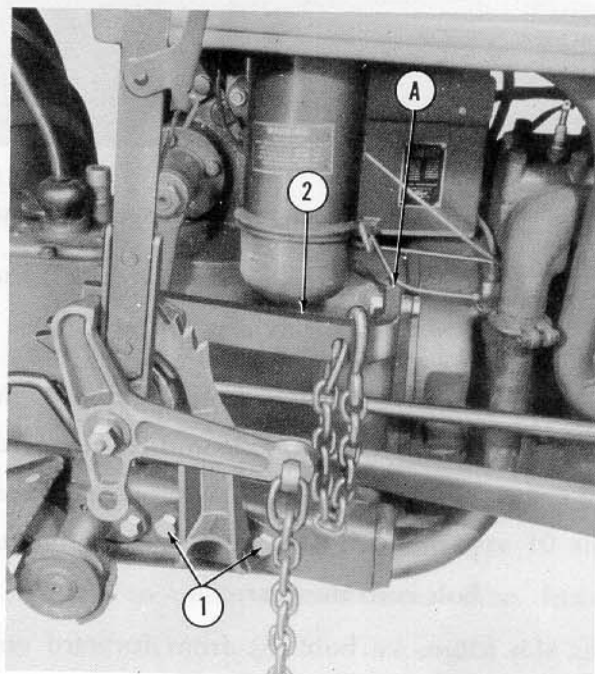

Figure 7
11. Attach curb lift assembly to right hand mounting frame, as shown in Figure 7, with two bolts (1), provided with the assembly.
- a. Secure curb lift support bracket (2) to forward end of mounting frame at point "A" with bolt provided in bag of small parts.